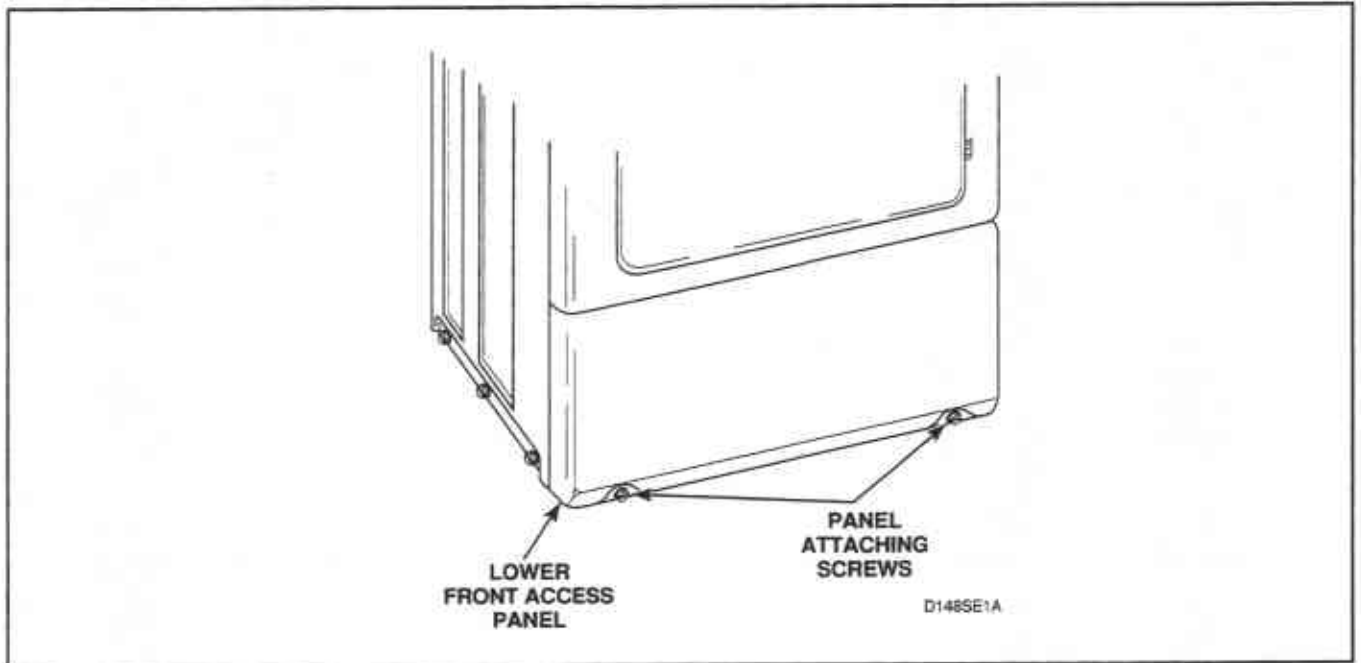

Figure 45
- While supporting the lower access panel, remove two screws from bottom edge of lower access panel, *Figure 45*.
- a. While supporting the lower access panel, remove two screws from bottom edge of lower access panel, *Figure 45*.